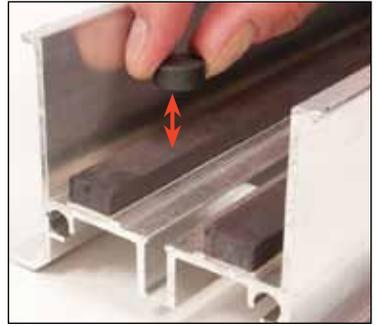

Figure 1
1. First, determine which side of the magnets is repelled by your track's magnetic strip. To do this, hold one of the magnets above the track – the side of the magnet that is drawn to the track should face away from the track (Figure 1).